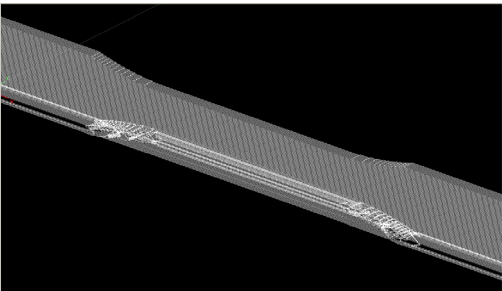

Figure 6. Selected Part.
- 2. Drag the cursor across the screen to select the entire part (all layer lines will show up as white if selected) (Figure 6).